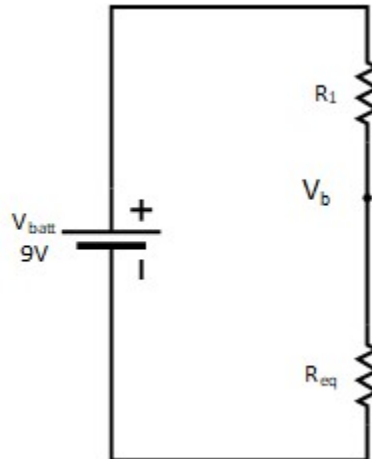

Figure 2 – Equivalent Resistor Network
The circuit in Figure 2 is now a simple series resistor network or a voltage divider circuit. Recall that for a series resistor network, the voltage across each resistor is proportional to the ratio of the value of that resistor to the total resistance. In the case of Figure 2:
the equivalent resistance of the network can never be larger than the smallest resistor in the network. Therefore, by setting  $R_2 = R_1$ , we ensure that no matter how large the value of  $R_t$  is, the value of  $R_{eq}$  is never larger than  $R_1$ , and consequently,  $\frac{R_{eq}}{R_1 + R_{eq}}$  for the series circuit in Figure 2 will never be larger than  $\frac{1}{2}$ .
- A. Design requirement (a) states that  $V_b = 3V$  for LED to turn on. Referring to Figure 2 and Eq. 1: